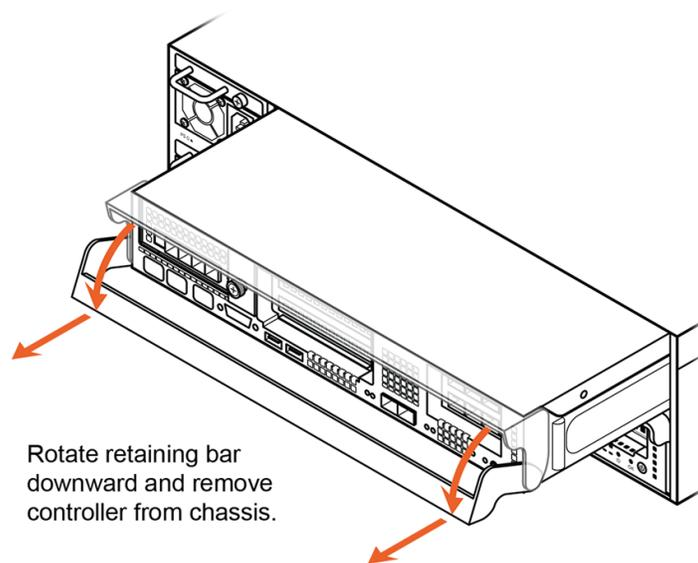

Figure 13-10. Removing the Controller
2. Rotate the controller retaining bar downward and pull the controller from the chassis. See Figure 13-10.